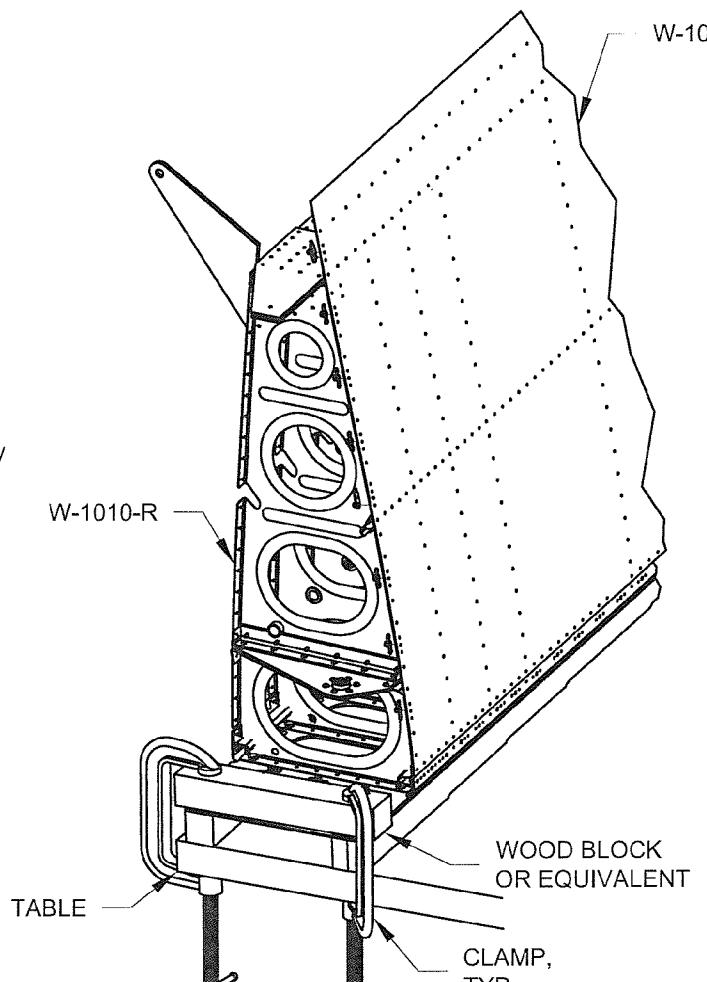

FIGURE 1: NUTPLATE INSTALL
Step 2: Lay the W-1028A and W-1028B Wing Box J-Stiffeners into the J-stiffener notches in the wing ribs. Cleco the W-1002 Top Inbd Wing Skin, W-1003 Top Outbd Wing Skin, W-1027A and W-1027B Wing Walk Doublers to the spars and ribs. Cleco the stiffeners to the top wing skins. Cleco the nutplates that attach along the inboard edge of the top inbd wing skin to the wing assembly (see Figure 1). Check that the top outbd wing skin is **on top** of the top inbd wing skin.
Step 3: Rivet the W-1002 Top Inbd Wing Skin and W-1003 Top Outbd Wing Skin to the W-1028A and W-1028B J-Stiffeners, ribs, rear spar and main spar. See Figure 2 and Figure 3 for the rivet callouts. When riveting the inboard most row of rivets, install the nutplates as indicated in Figure 1 to the W-1010-R Inbd Wing Rib, W-1027A and W-1027B Wing Walk Doublers and top inbd wing skin. To assure maximum skin tightness, rivet from the center of each skin outwards towards the root and tip. Do this on both skins saving the double row of rivets at the lap joint until last. For a higher quality skin finish, back rivet the skins in place. This will require a large bucking bar, covered with plastic packaging tape, laid over the manufactured head of the rivet on the outside face of the skin and an extended back rivet set.